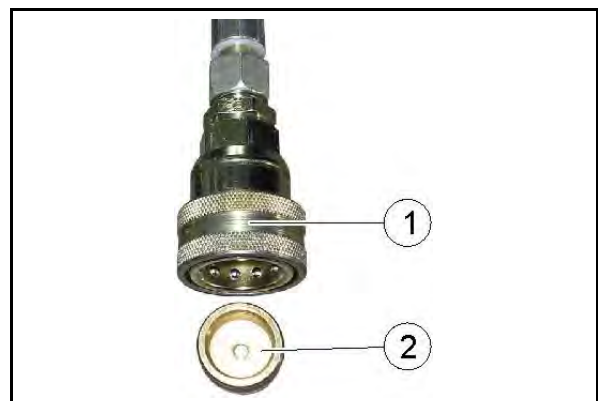

Fig. 36
2. Uncouple the hydraulic sleeve (Fig. 36/1).
3. Slip the hydraulic sleeve onto the machine's blanked-off connecting piece (Fig. 36/2).